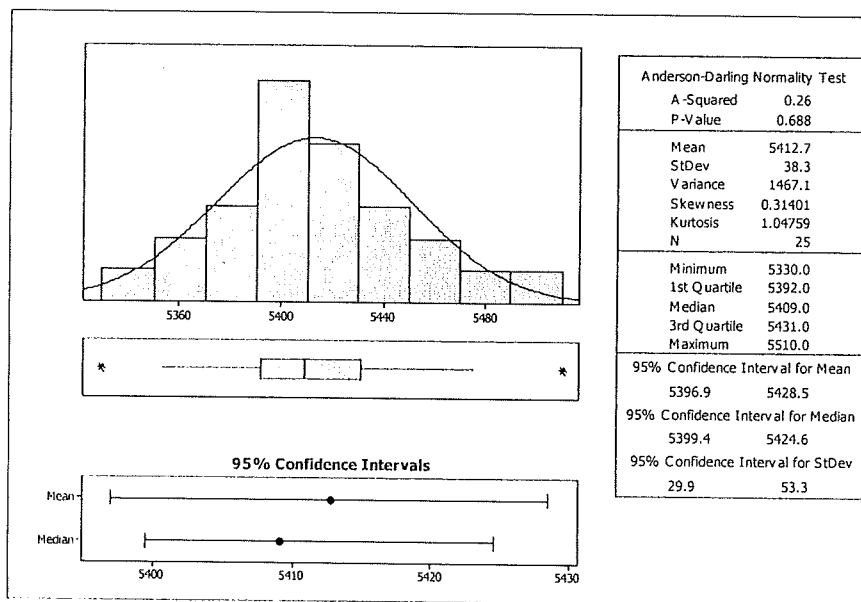

Figure 1. A graphical summary of shear strength of titanium alloy
- [b] A graphical summary of the shear strengths of 25 spot welds in a titanium alloy is shown in Figure 1. Is the data normal distributed? Justify your answer.